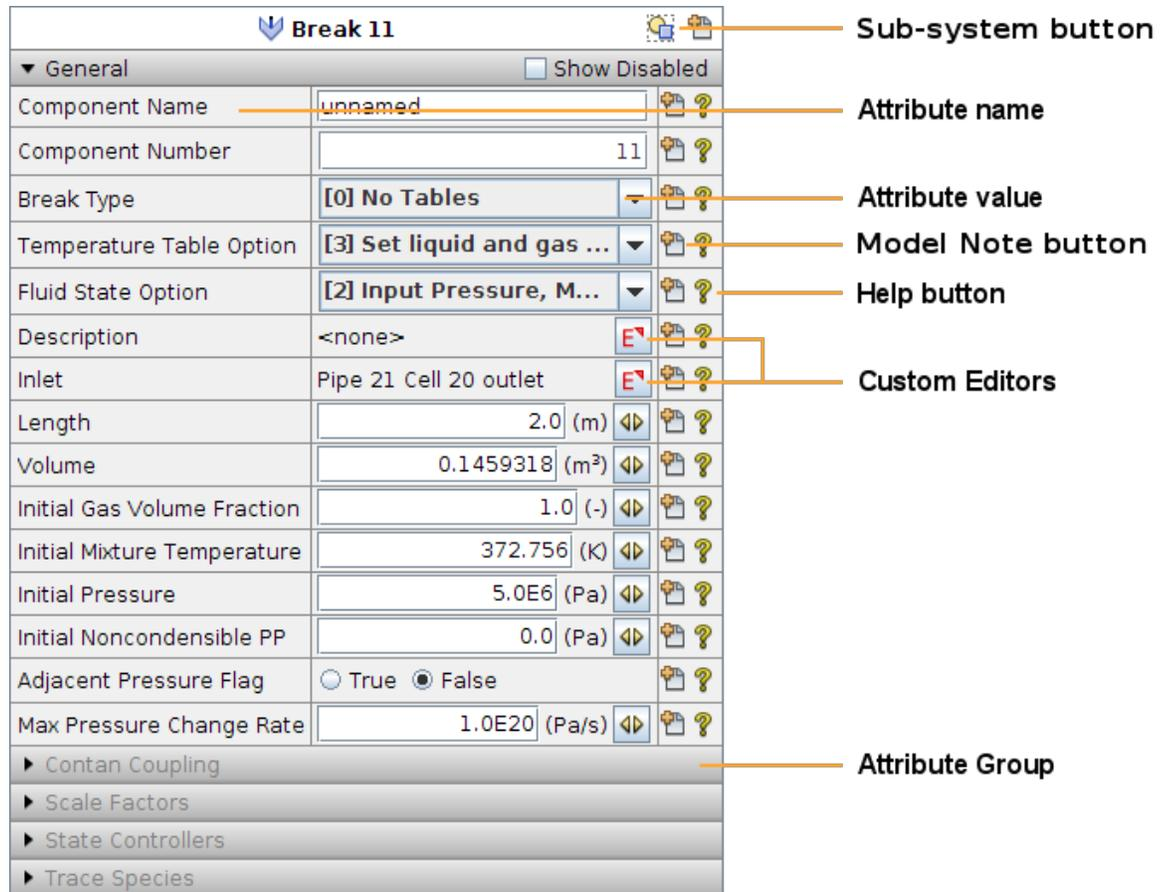

Figure 2.5. Example Property View
The Main Property View, shown in Figure 2.5, “Example Property View”, provides the central point for viewing and editing properties of model components, Display Beans, etc.. It displays the properties of the current selection from either the Navigator or a 2D View. Changes to these properties will immediately be reflected in all other open views (2D, ASCII, Property, etc.). An example of a Property View is shown in Figure 2.5, “Example Property View”.
Show Disabled Check Box - This check box (shown in Figure 2.5, “Example Property View”) is used to activate the display of disabled properties in each of the attribute groups. The **Show Disabled** check box always appears in the title area for the **General** attribute group.
- **Properties** - This item opens a separate property view for the selected object. This separate property view is functionally equivalent to the main property view shown in Figure 2.5, "Example Property View".